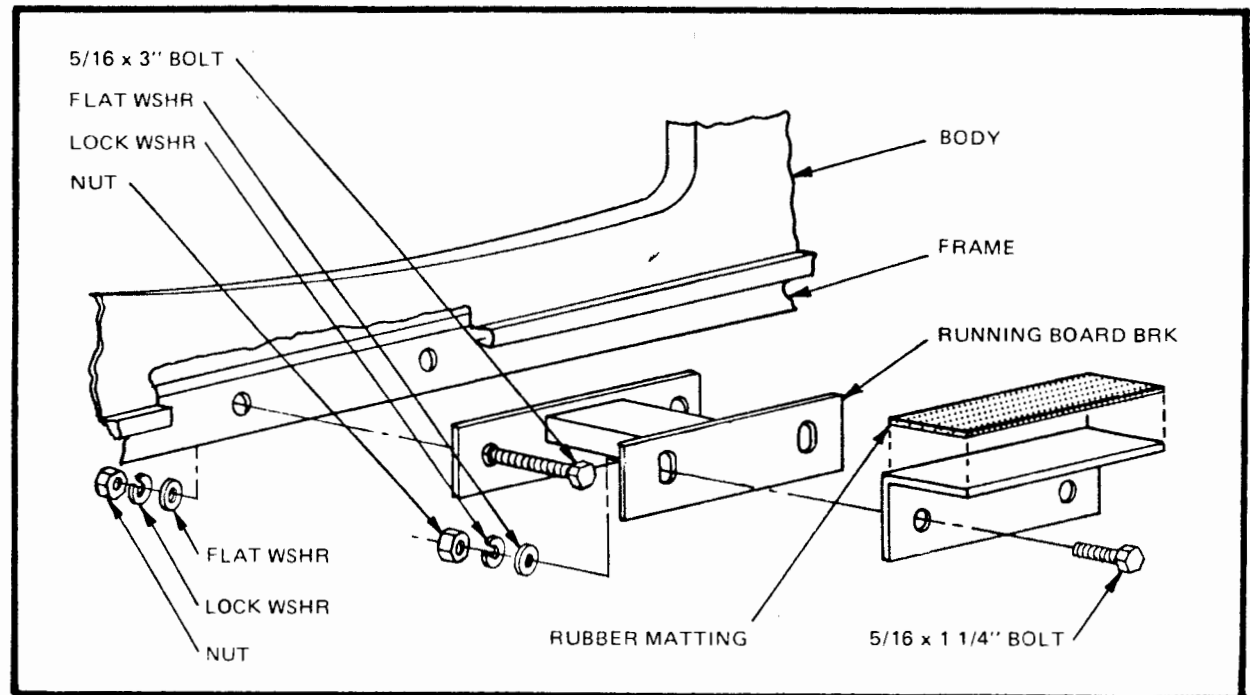

Figure 50
- Center running board bracket against main frame rail under running board. Position it until it just contacts running board. Mark hole locations and drill 2 holes, 3/8", through frame rail. Attach bracket extension to bracket using 2 bolts, 5/16 x 1 1/4" with flat washer, lock washer and nut. Finger tighten. Glue a piece of rubber matting to the top of the extension to prevent squeaks. Bolt bracket to frame using 5/16 x 3" bolts with flat washer, lock washer and nut. Final adjustments will be made later. (Figure 50)